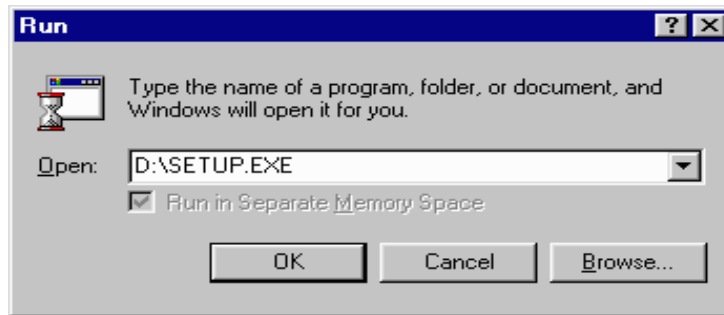

Figure 1 *Run Dialog Box*
4. Enter `D:\setup.exe` in the command line, where `D:` is the CD-ROM drive, or click **B**rowse... to select the correct path. See Figure 1 on page -13.